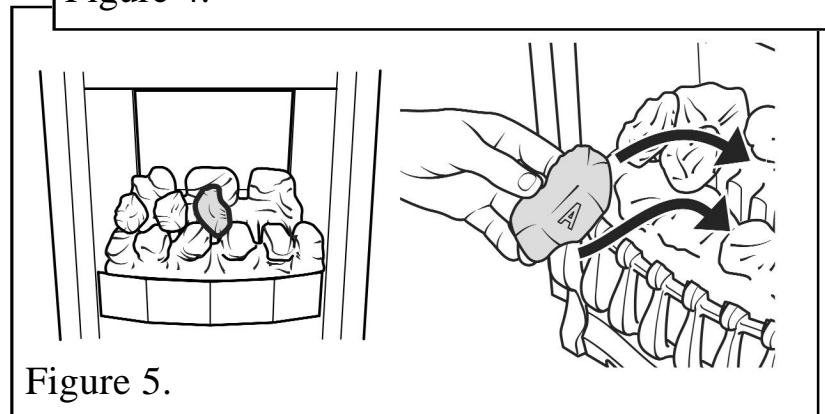

Figure 5.
5. Place a type “A” coal between the front and rear base coals with the letter “A” upright. The top of the coal should rest against the centre coal of the rear base coal as shown in figure 5.